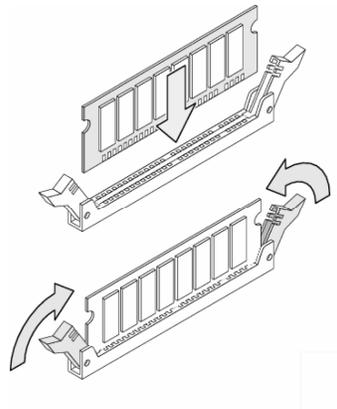

Figure A-14. Inserting a DIMM
8. Slowly insert the new DIMM by sliding the end with the metal fingers into the DIMM socket (see Figure A-14). Stop sliding when the DIMMM is securely seated in the socket.